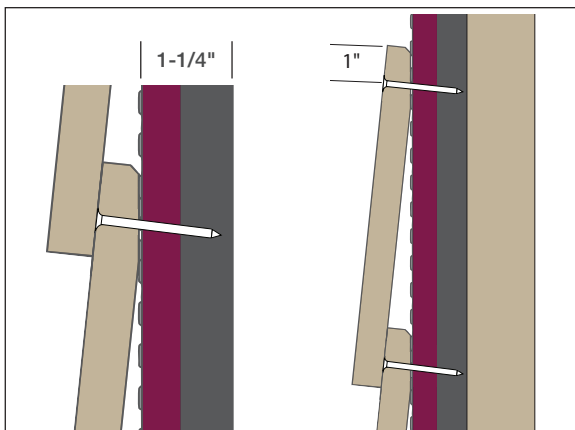

Fig. 33
- Working from the bottom of the wall, place a fastener 1 inch down from the top edge of each piece of lap siding plank **(Fig. 33 & 34)**